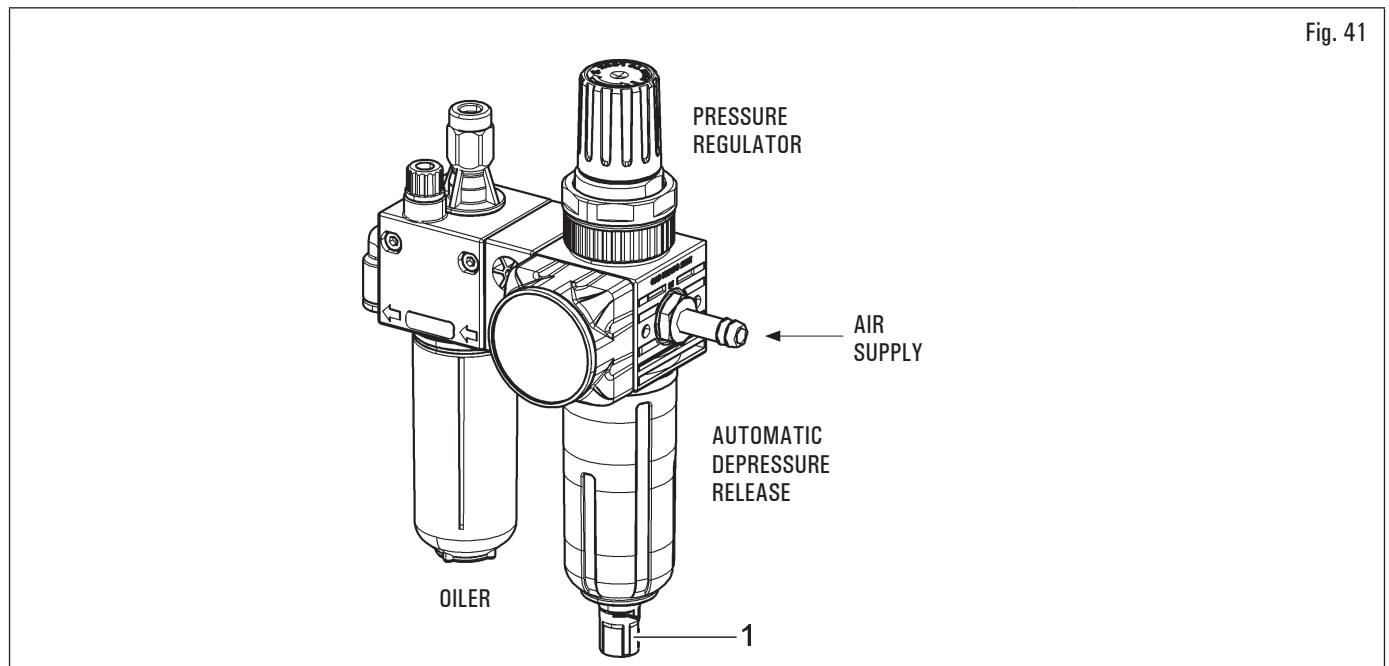

Fig. 41
- The conditioning assembly is equipped with an automatic vacuum-operated drain therefore it requires no manual intervention by the operator (see Fig. 41).
In order to ensure a good functioning and to avoid the presence of condensation in the air treatment assemblies with semi-automatic drain, it's necessary to make sure about the correct position of the valve (Fig. 41 ref. 1), placed under the cap. To activate a correct drain function, the cap must be rotated in the right way.